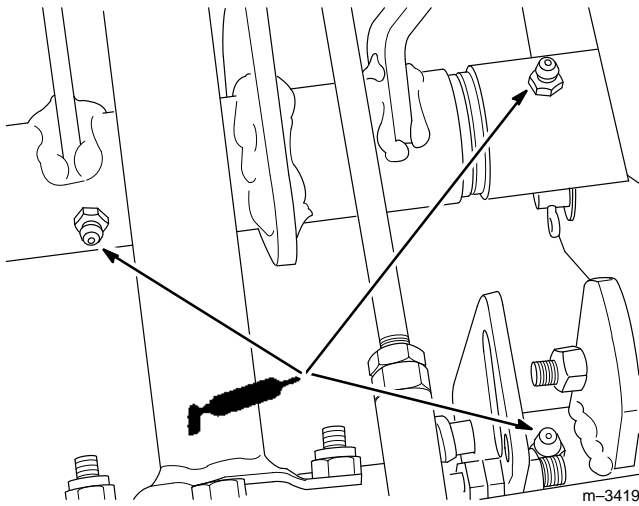

Figure 30
- Lubricate the three grease fittings (Fig. 30).